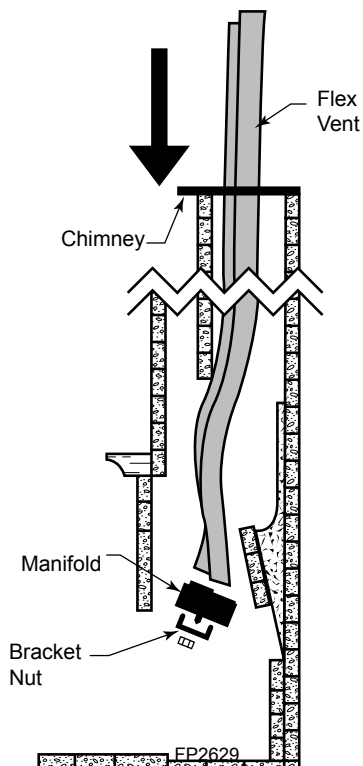

**Figure 10 -
3. Route flex vent through chimney from above. *Figure 10.* Leave an extra 3" (76 mm) at the top.